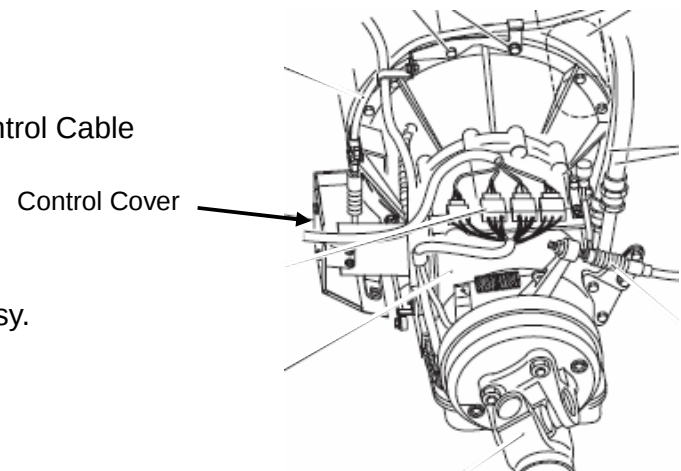

Fig1-1. Control Cover
1. Remove Control Cover as shown in Figure1-1. ※